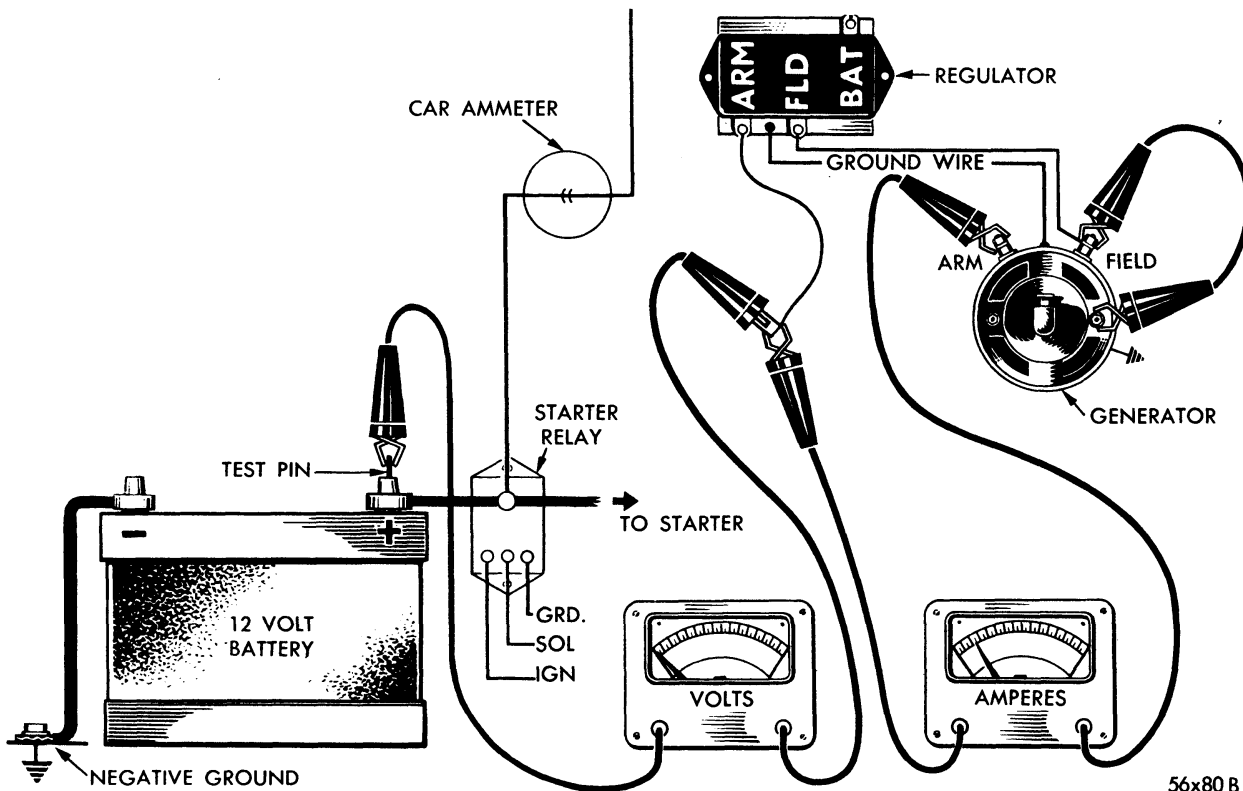

Fig. 6—Charging Circuit Resistance Test
18. CHARGING CIRCUIT RESISTANCE TEST (FIG. 6)
Connect test equipment, as shown in Figure 6. The ammeter is connected at generator and volt meter is attached to armature lead so that any voltage loss in test ammeter will not register on voltmeter. Start engine, increase engine speed until 10 amperes register on test ammeter, and read voltmeter. The voltage shown will be voltage drop of charging circuit and should not exceed .50 volt. A voltage drop that exceeds .50 volt indicates high resistance from a loose connection, burned relay contacts or a partially broken wire. Where voltage drop exceeds .50 volt, a point-to-point check is required. Move one of voltmeter leads back along circuit toward other test lead connection, checking voltage at each terminal connection. A sudden drop in voltage indicates that high resistance is present between that point and last point tested. Clean relay contacts, tighten loose connections and replace damaged wiring.
Connect equipment, as shown in Figure 6, with exception of voltmeter leads. In output test, connect voltmeter from generator armature terminal post to ground. Increase engine speed while observing the meters. A generator that is in good condition should be capable of an output in amperes that will exceed rated output slightly: approximately 15 volts at 2,300 generator r.p.m.